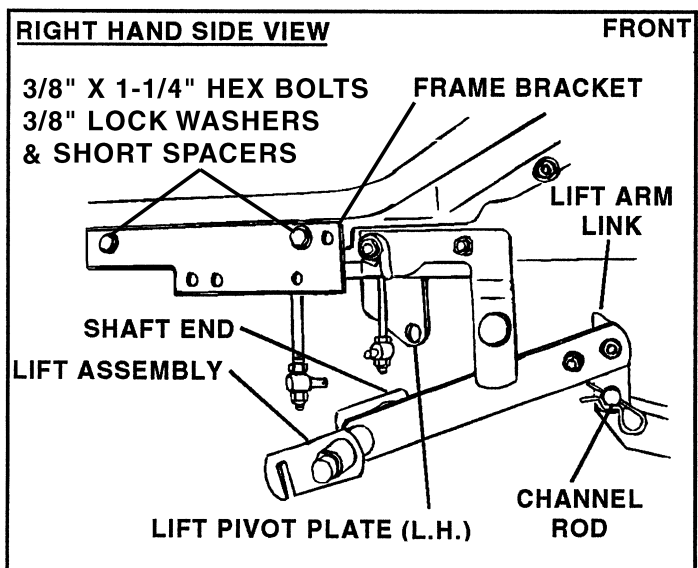

FIGURE 19
18. Assemble lift arm link over channel rod and insert pivot shaft end (from R.H. side of tractor) into hole in L.H. lift pivot plate. Secure lift arm link to channel rod with 1/8" (large) hairpin cotter. See figure 19.
19. Assemble a frame bracket under the right hand foot rest of the tractor using two 3/8" x 1-1/4" hex bolts, two 3/8" lock washers and four short spacers. Use two spacers on each bolt, between the frame bracket and the tractor frame. See figure 19.